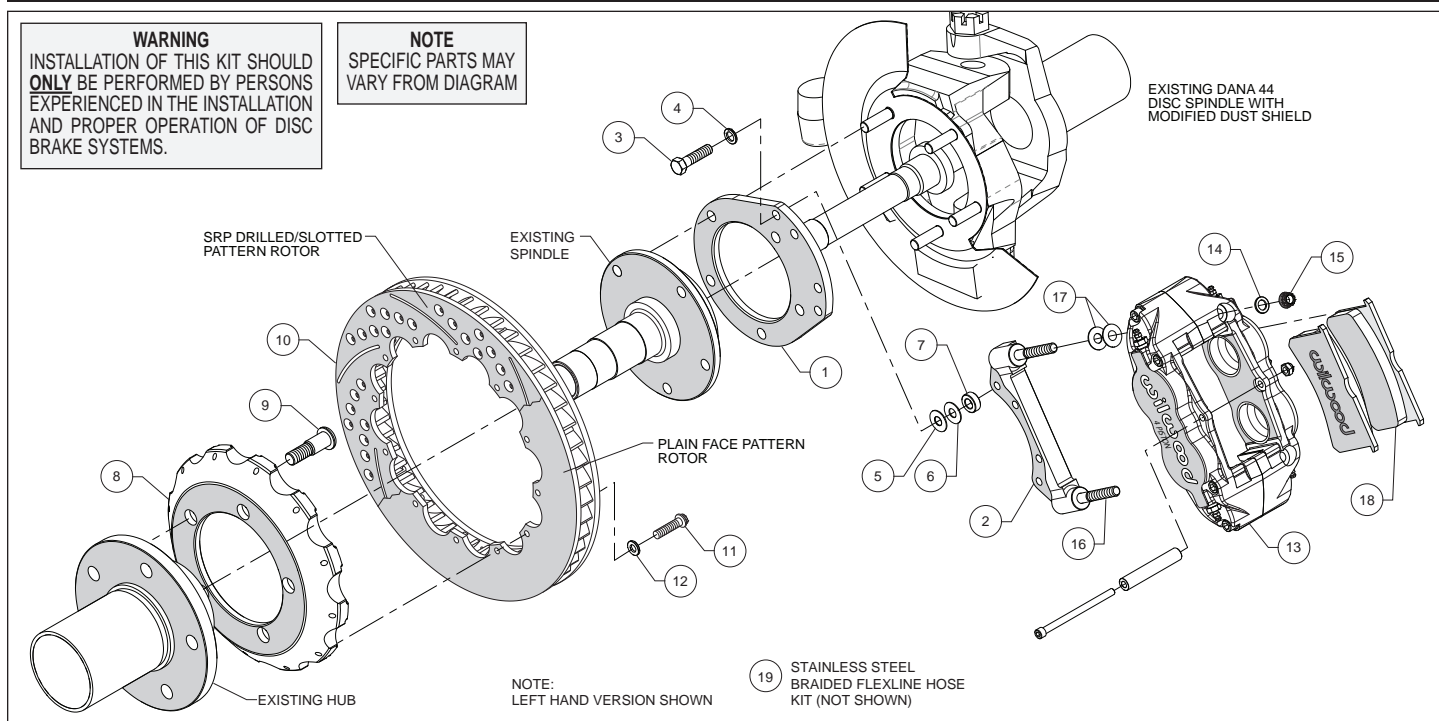
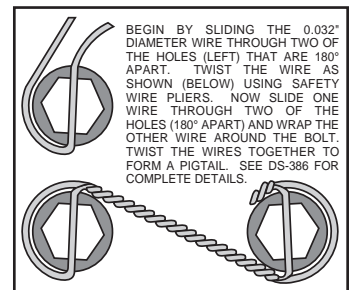

Figure 1. Typical Installation Configuration
Figure 4. Safety Wire Diagram
Assembly Instructions (numbers in parenthesis refer to the parts list and Figure 1 on the preceding pages):
- Orient the flat mount bracket (1) as shown in Figure 1 and Photo 1. Install the OEM spindle over the bracket and secure with OEM nuts, Photo 2. Temporarily tighten the mounting nuts. **NOTE:** *The bracket must fit squarely against the mount bosses on the upright.* Inspect for interference from casting irregularities, machining ridges, burrs, etc. Remove nuts one at a time, apply red *Loctite*® 271 to the bolt threads and torque nuts to OEM specification.
- The caliper mount bracket (2) should initially be installed with clean, dry threads on the mounting bolts. Orient the bracket as shown in Figure 1 and Photo 3, and install using mount bolts (3) and washers (4). Initially place one .035" thick shim (5) and spacer (7) on each bolt between the flat and caliper brackets, Figure 1. Temporarily tighten the mounting bolts. Later, after the caliper alignment has been checked, the mount bolts will be secured using red *Loctite*® 271.
- Orient the hat (8) and the OEM hub as shown in Figure 1 and Photo 4. **NOTE:** *The hat must fit flush against the hub or excessive rotor run out may result.* Install the wheel studs (9) thru the holes in the hat and press into the existing hub. **NOTE:** *We recommend this procedure be performed by a qualified machinist.*
- Orient the rotor (10) and the hat/hub assembly as shown in Figure 1 and Photo 5. Attach rotor to hat using bolts (11) and washers (12). Using an alternating sequence, apply red *Loctite*® 271 to the threads, and torque to 155 in-lbs. For an added measure of security, the bolts may be safety wired using standard 0.032 inch diameter stainless steel safety wire as shown in Figure 4. Please refer to Wilwood's data sheet DS-386 (available at www.wilwood.com/Pdf/DataSheets/ds386.pdf) for complete safety wire installation instructions.
- Lubricate the caliper mounting studs (16) with lightweight oil. Initially place two .035" thick shims (17) on each stud as shown in Figure 1 and Photo 6. Mount the caliper (13) onto the bracket (2) using lock nuts (15) and washers (14), Figure 1. Temporarily tighten the lock nuts and view the rotor through the top opening of the caliper. The rotor should be centered in the caliper, Photo 7. If not, adjust by adding or subtracting shims (5 and/or 6) between the spindle bracket and caliper bracket. Always use the same amount of shims on each of the four mounting bolts. Once the caliper alignment is correct, remove the bracket to bracket mounting bolts (3) one at a time, apply red *Loctite*® 271 to the threads, and torque to 35 ft-lb.